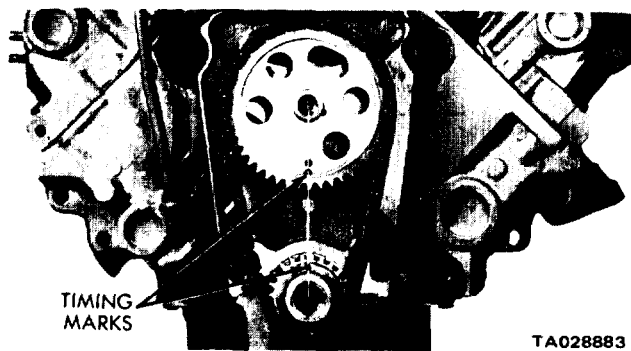

Figure 3-10. Alinement of Timing Marks.
(7) Turn the crankshaft and camshaft to lineup with the keyway locations in their respective sprockets.
(8) Lift the sprockets and chain (keep the sprockets tight against the chain in the position described).
(9) Slide both sprockets simultaneously over their respective shafts. Use a straightedge to check alignment of timing marks (figure 3-10).